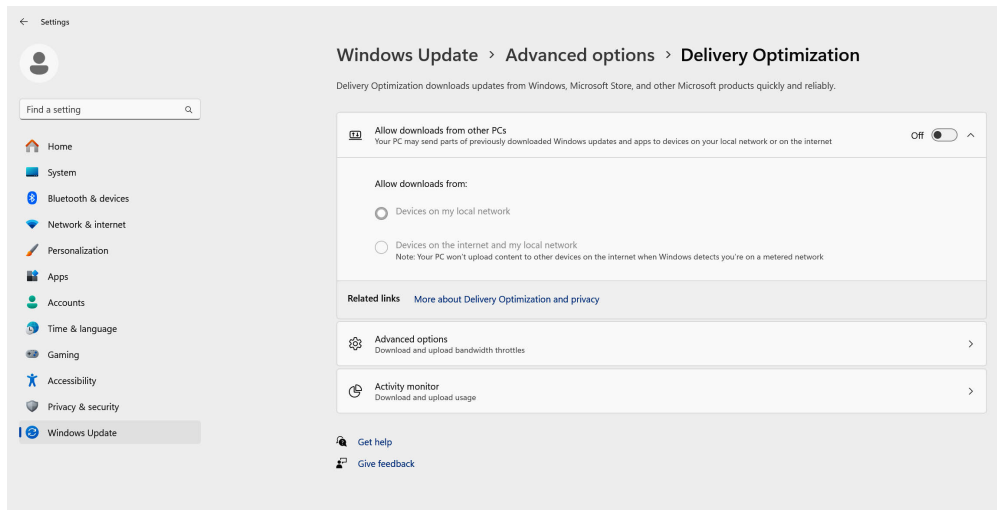

Figure 34: Win 11 Delivery Optimization
3. Next, Click on **Delivery Optimization** and choose “Allow Downloads from other PCs” - **OFF**. (Fig 34)